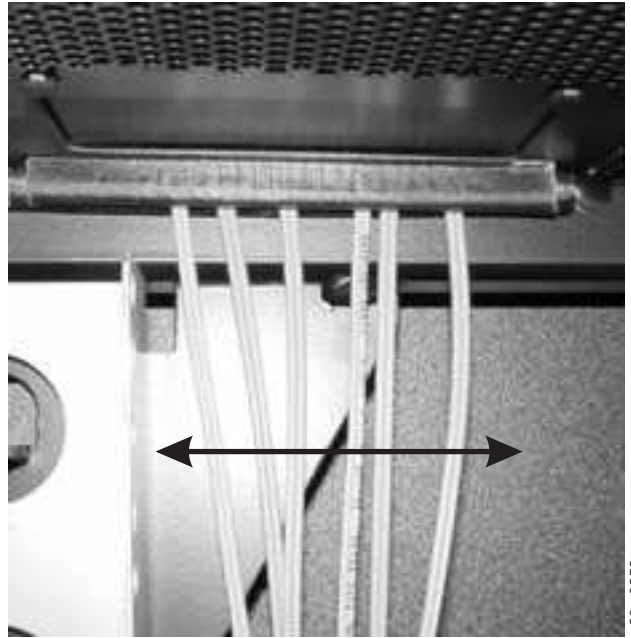

Figure 23. Positioning the Fibre Channel cable inside the frame
6. After you route the cables inside the frame, position them as shown in Figure 23 on page 108